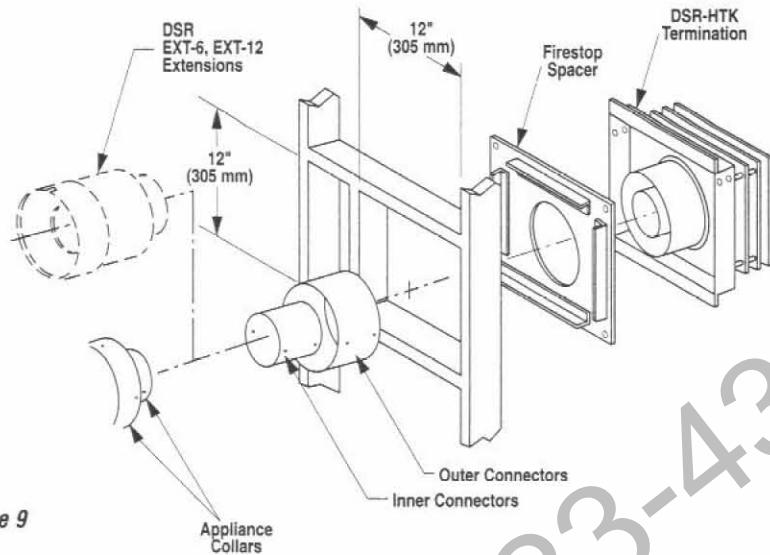

Figure 9
To install the DSR-HTK kit, Attach both inner and outer connectors to the inner and outer appliance collars with two (2) #8 x 1/2" sheet metal screws per collar that are provided. Holes in both the appliance collars and the termination connectors properly locate these components (Refer to *Figure 9*). After attaching the collars, position the appliance in its final location so that the connectors extend through the exterior wall.
Attach the firestop spacer to the outside surface of the wall as shown in *Figure 9* and *10*. The termination housing must be oriented with the surface marked "TOP" upward. Align the termination extension tubes with the connectors and engage both inner and outer extension tubes over both connectors. The DSR-HTK Termination requires the application of a liberal bead of high temperature caulking on the mounting flanges to seal. Slide the termination inward until the housing bottoms out at the exterior wall surface. Secure the termination using 6d nails at holes in the upper and lower housing flanges.